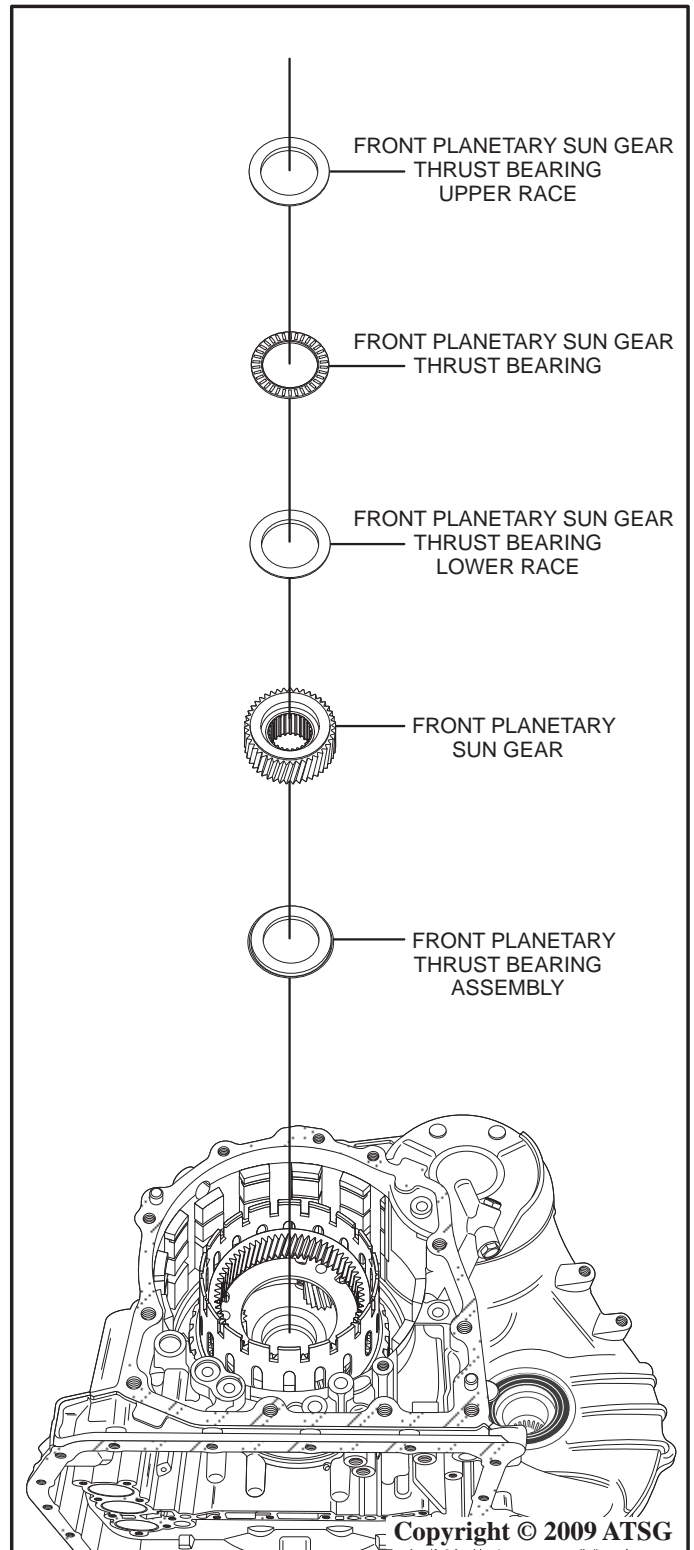

Figure 53
86. Remove the front planetary sun gear thrust bearing upper race, the front planetary sun gear thrust bearing, and the front planetary sun gear lower race as shown in Figure 53.
87. Remove the front planetary sun gear by lifting straight up as shown in Figure 53.
88. Remove the front planetary thrust bearing assembly as shown in Figure 53.